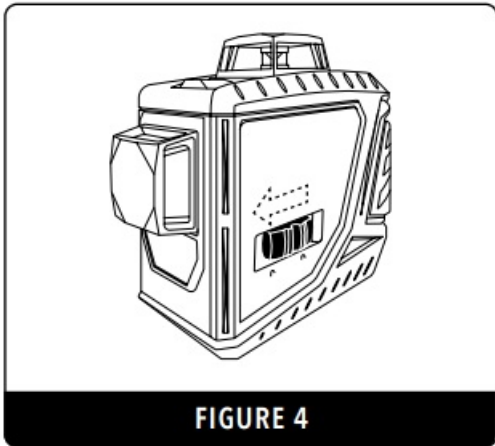
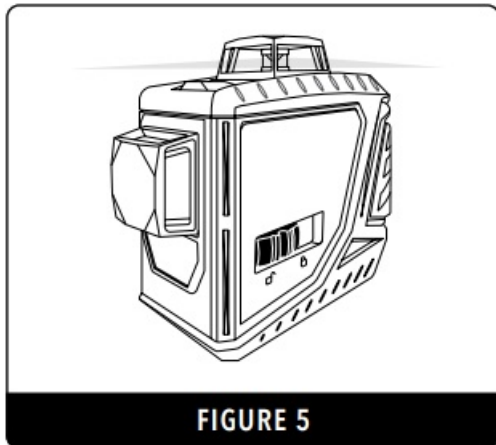

FIGURE 4
FIGURE 5
- To turn the instrument on, slide the power / locking switch to the “unlocked” position (Fig.4). Self levelling will commence and the horizontal beam will activate (Fig.5).